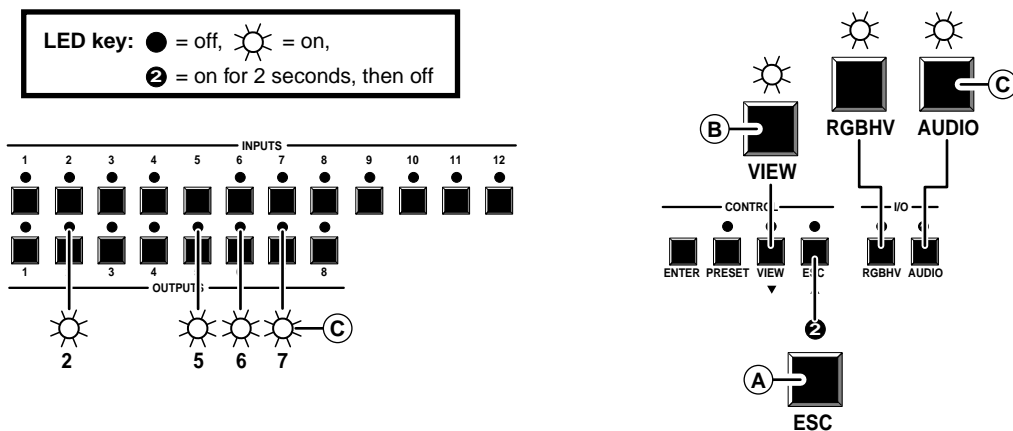
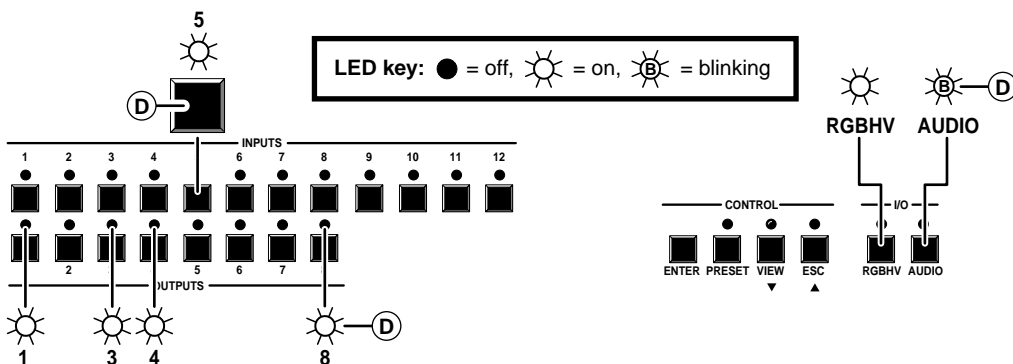
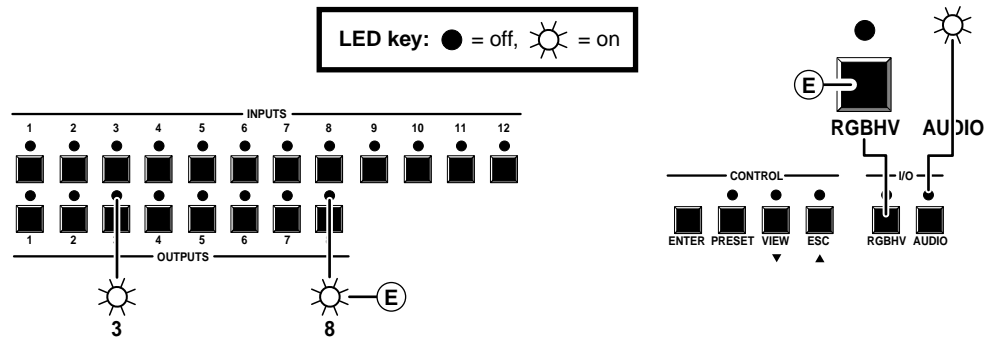
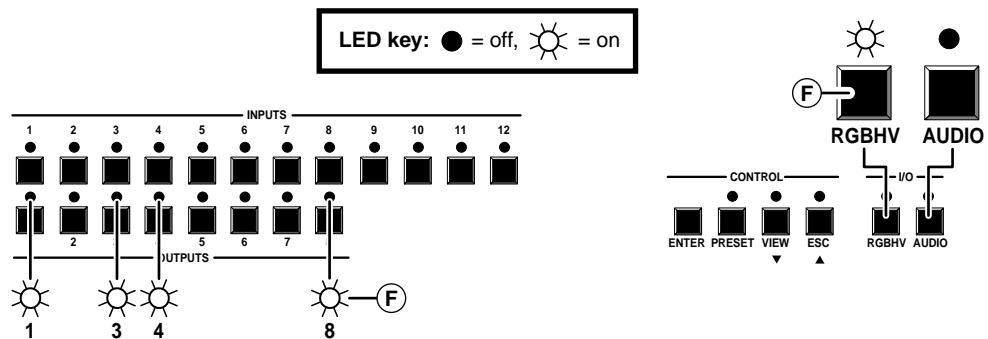

Figure 27 — Example 4: Viewing the current configuration, no input selected
Figure 28 — Example 4d: Viewing the current configuration, video and audio
Figure 29 — Example 4e: Viewing the current configuration, audio-only
Figure 30 — Example 4f: Viewing the current configuration, video-only
See figure 27, figure 28, figure 29, and figure 30 and the following steps for an example of viewing the video and audio, audio-only, and video-only ties in the current configuration.
- (A) Press and release the Esc button. The Esc LED turns on for approximately 2 seconds and turns off.
- (B) Press and release the View button to enter view-only mode. The View LED lights. With no input LED selected, all output LEDs that have no established ties light.
- (D) Press and release the input 5 button (figure 28). The input 5 LED lights.
- (E) Press and release the RGBHV button to toggle the Video LED off (figure 29). If audio is broken away, the Audio LED stops blinking and lights steadily.
- (F) Press and release the RGBHV and Audio buttons to toggle the Video LED on and the Audio LED off (figure 30).